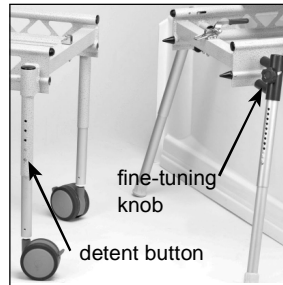

Figure 15
2. Adjust the leg height of the tub base so the frame tubes are at the same height as the rolling base and both are aligned when positioned end to end (Fig. 15).
3. Make rough adjustments ($\frac{3}{4}$ ") with the detent buttons (Fig. 15), or make fine adjustments by loosening the back knobs (refer back to Fig. 12) and turning the legs to the desired height. Tighten the adjusting knobs when the height is set.